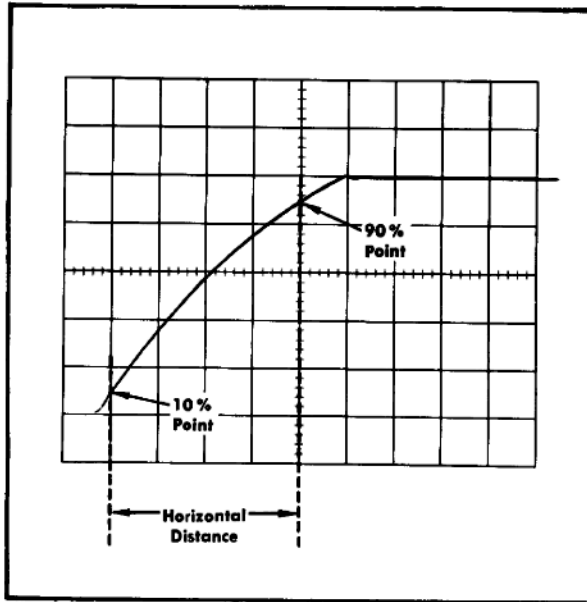

Fig. 2-10. Measuring risetime.
6. Adjust the Type 385 POSITION control to move the 10% point of the waveform to the first graticule line. For example, with a five-division display as shown in Fig. 2-10, the 10% point would be 0.5 division up from the start of the rising portion.
Example. Assume that the horizontal distance between the 10% and 90% points is four divisions (see Fig. 2-10) and the indicated sweep rate is 0.1 μ s/DIV.